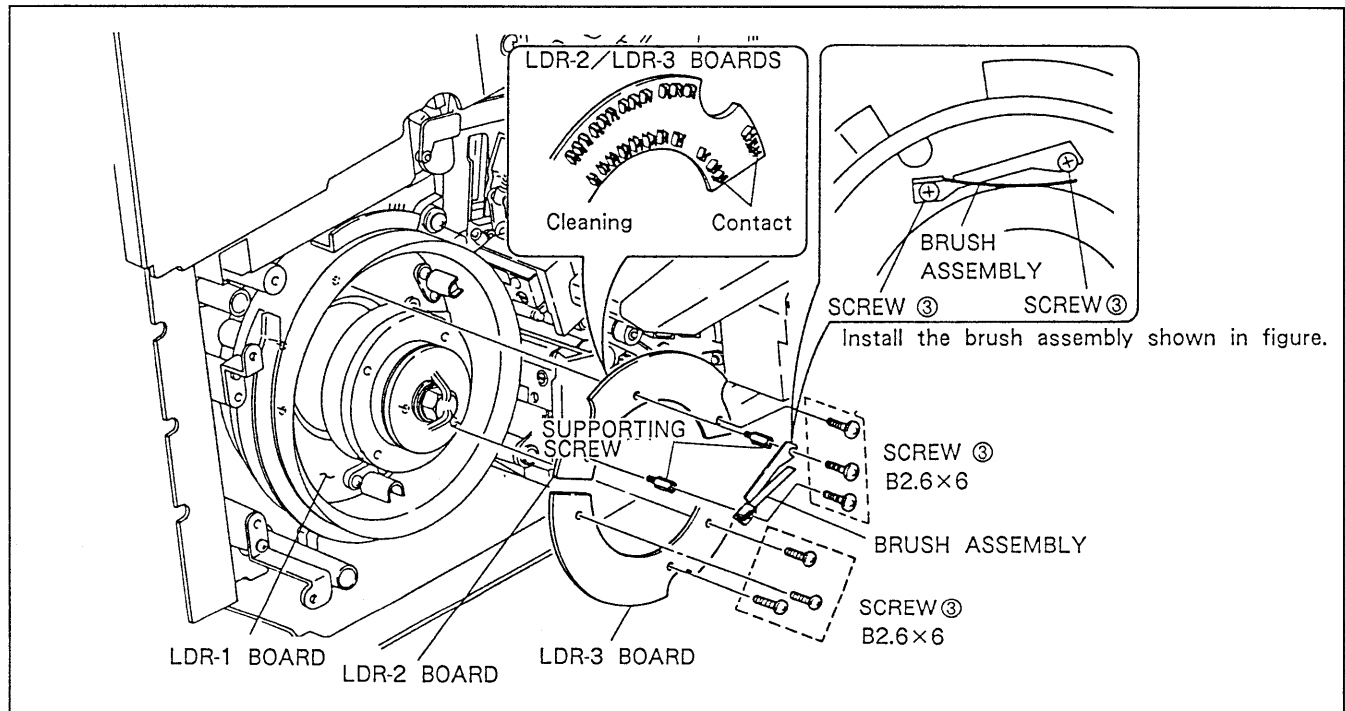

Fig. 6-1-2. LDR-2 and LDR-3 Boards Replacement
3-1. The LDR-2 board and the brush assembly are fix in common. When replacing the LDR-2 board, refer to Fig. 6-1-2. After the replacement, it is necessary to adjust the position of the brush assembly.
3-2. Replace the LDR-3 board by removing the three screws ③ shown in Fig. 6-1-2.